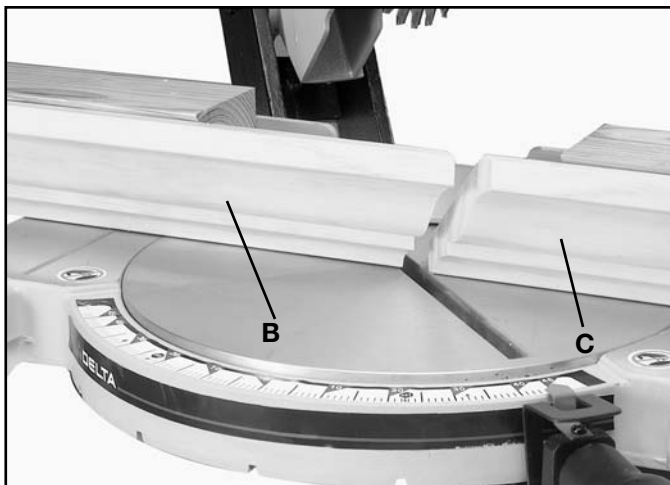
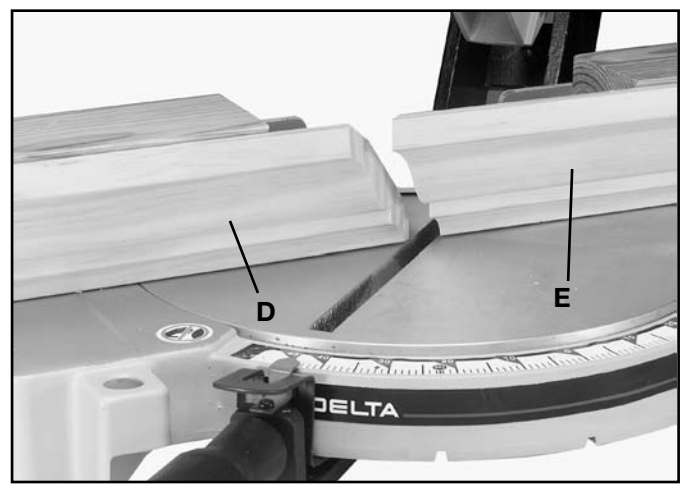

Fig. 41
Fig. 42
6. Fig. 41, illustrates the miter saw arm in the 45 degree right miter position and the filler blocks fastened to the fence so that the moulding will be in the same position as it would be when nailed between the ceiling and wall.
To cut the mating pieces for mouldings (B) and (C) Fig. 41, simply rotate the miter saw arm to the 45 degree left miter position and make the cut, as shown in Fig. 42. In this case the moulding (D) on the left of the saw blade will be for an inside corner and the moulding (E) on the right of the saw blade will be for an outside corner.